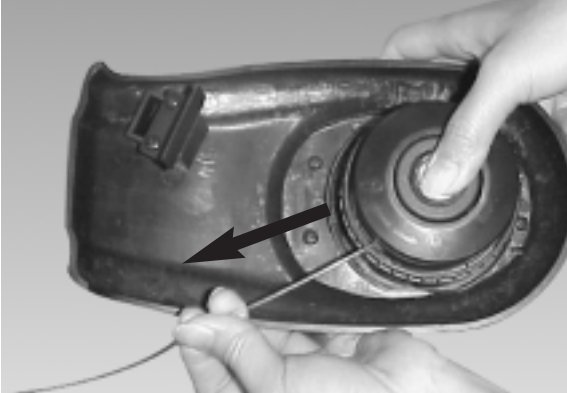

Fig. 23
9. To test if the line is advancing properly, push the button with your thumb while pulling the line with your fingers. The line should advance freely. (Fig. 23).